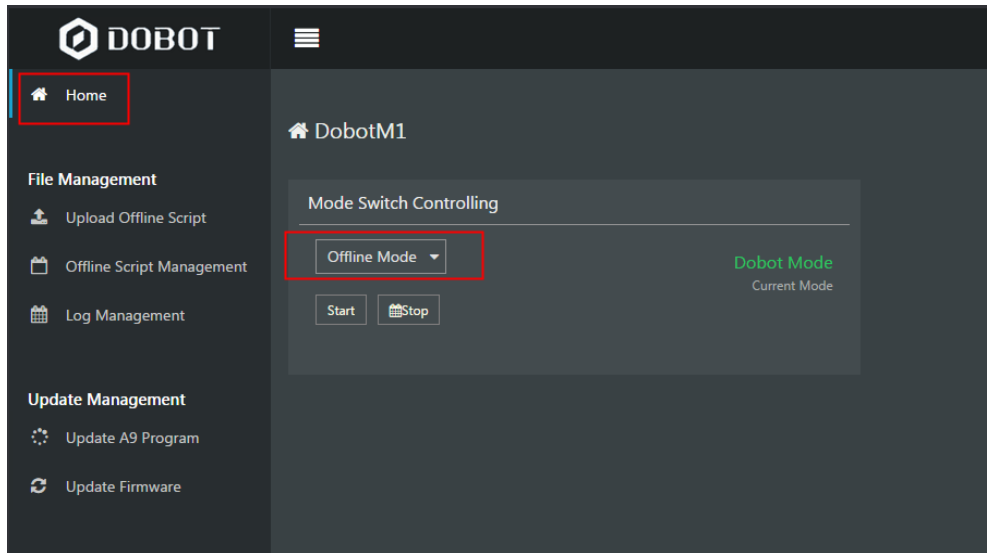

Figure 6.53 Mode switch
4. Select **Offline Mode** from the drop-down list on the **Mode Switch Controlling** pane of the **Home** page, and click **Start** to make Dobot M1 in the **Offline Mode** status, as shown in Figure 6.53.